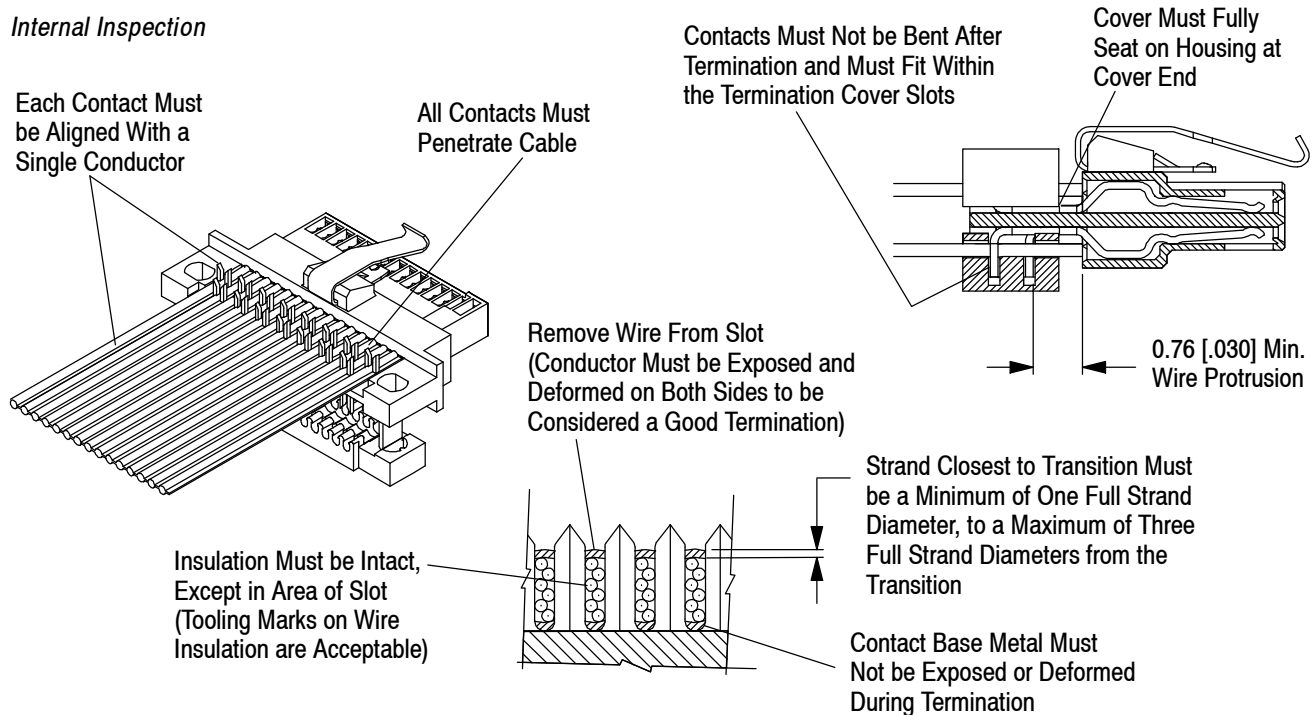

Figure 18
B. Internal Inspection (Figure 18)